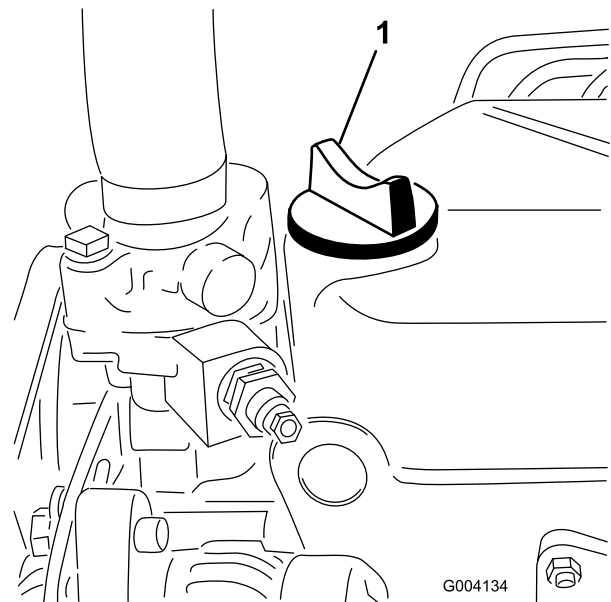

Figure 28
5. If the oil level is below the Full mark, remove the fill cap (Figure 28) and add oil until the level reaches the Full mark on the dipstick.